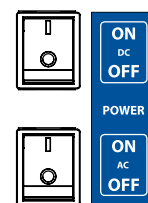

Figure 29. Set Both Power Switches to ON
7. Set both AC and DC power switches to ON (Figure 29).